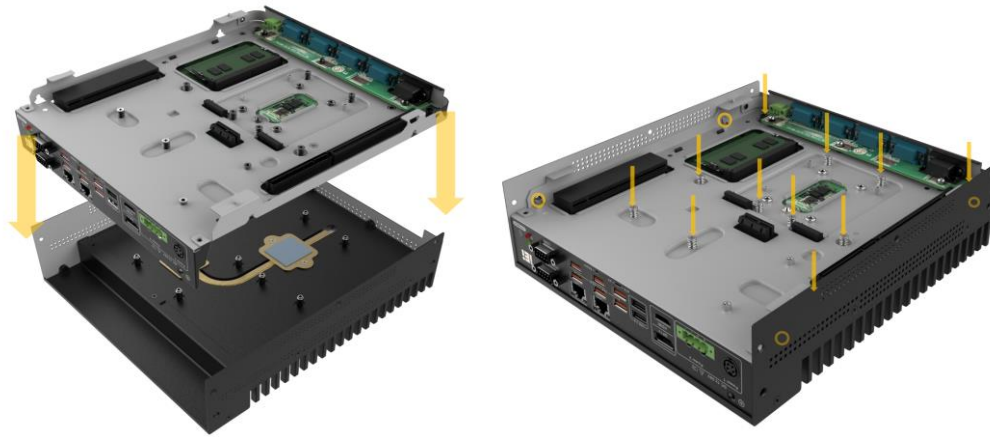

Figure 3-5: Motherboard Installation
Step 5: Align the motherboard (together with the motherboard holder) with the 4 positioning rods on the 2 sides, place it on the heat sink, and lock the motherboard with 11 spring screws. **(See Figure 3-5)**